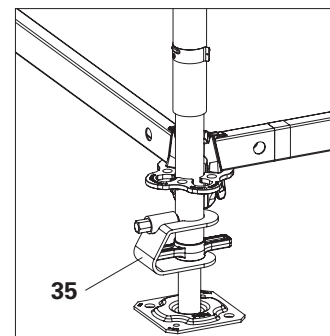

Fig. B3.07a
4. If movement by crane is envisaged, fit Spindle Locking UJS (**35**). (Fig. B3.07a)